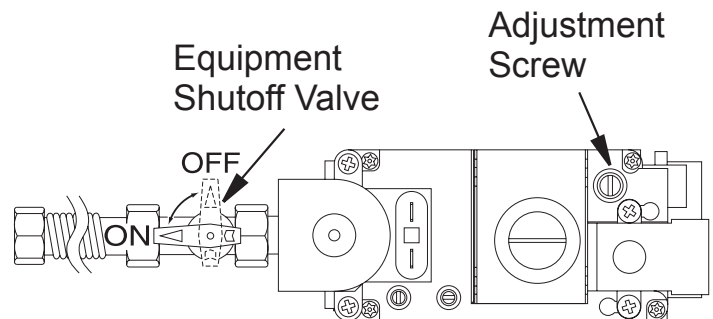

Figure 33 - Turning Equipment Shutoff Valve to the OFF Position
7. Turn equipment shutoff valve clockwise  to the OFF position (see Figure 33). Do not force.
8. Wait five (5) minutes to clear out any gas. Then smell for gas, including near the floor. If you smell gas, STOP! Follow "B" in the safety information, column 1. If you don't smell gas go to the next step.